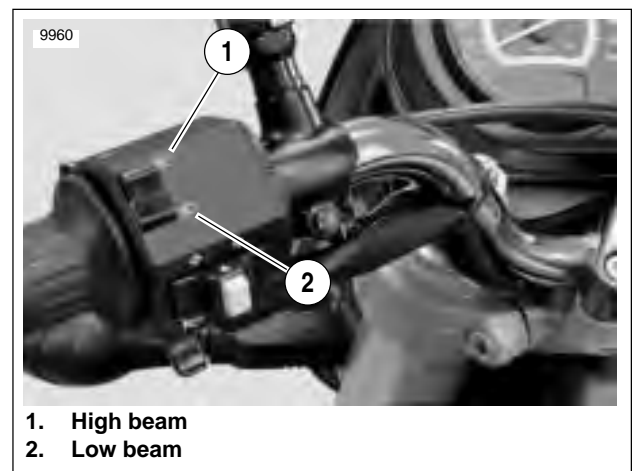

Figure 1-53. Headlamp Switch
- a. See Figure 1-53. Turn ignition switch to IGN. Set handlebar headlamp switch to LOW beam position.
- a. See Figure 1-53. Set handlebar headlamp switch to HIGH beam position.